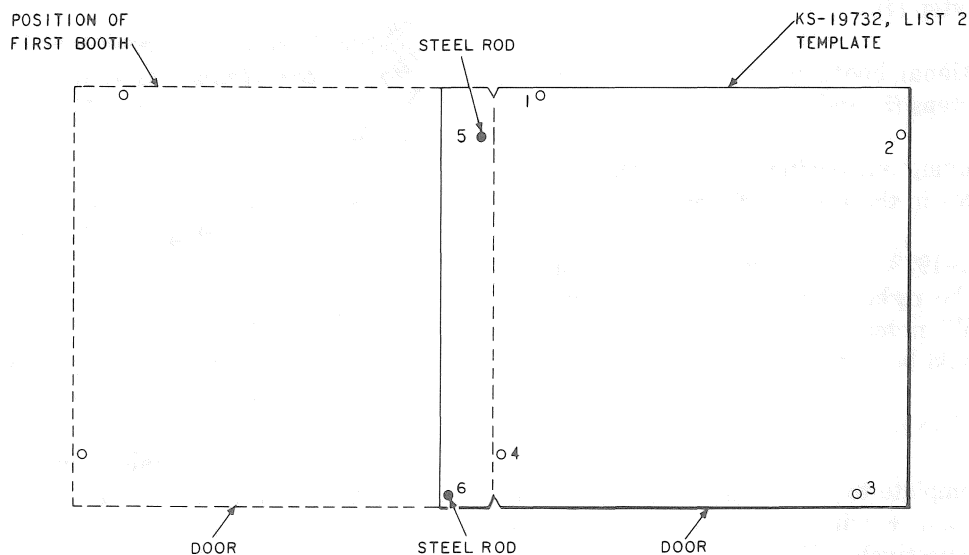

Fig. 12—Left to Right Layout for Drilling Mounting Holes
3.17 Use a chalk line and mark the floor where the front edge of the lineup will be (Fig. 12).
- (3) Move template to the right and align template holes 5 and 6 with previously drilled holes 3 and 4, respectively (Fig. 12). Insert the two steel rods in these holes.
- (4) Drill 1/4-inch holes at positions 1, 2, 3, and 4 to a depth of approximately 1-1/4 inches.
- (5) If a third booth is to be installed, move template to the right and align template holes 5 and 6 with previously drilled holes 2 and 3, respectively (Fig. 12). Insert the two steel rods in these holes.
- (6) Repeat step (4).
- (7) If additional booth positions are required, repeat steps (5) and (4) respectively.